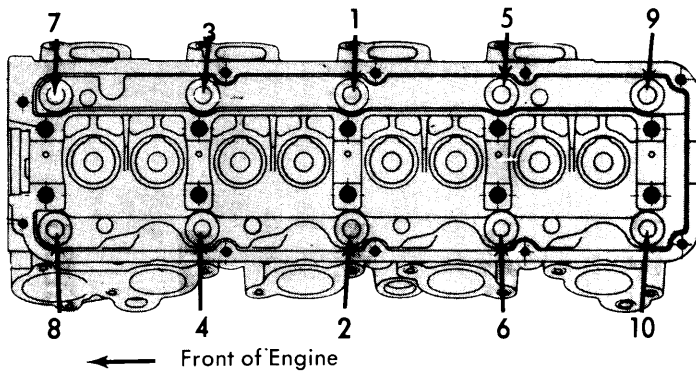

Fig. 1 Cylinder Head Tightening Sequence
2) Dip head bolts and washers in engine oil before installation. Install and torque, in two steps, to specifications shown in table, and according to sequence shown in Fig. 1.